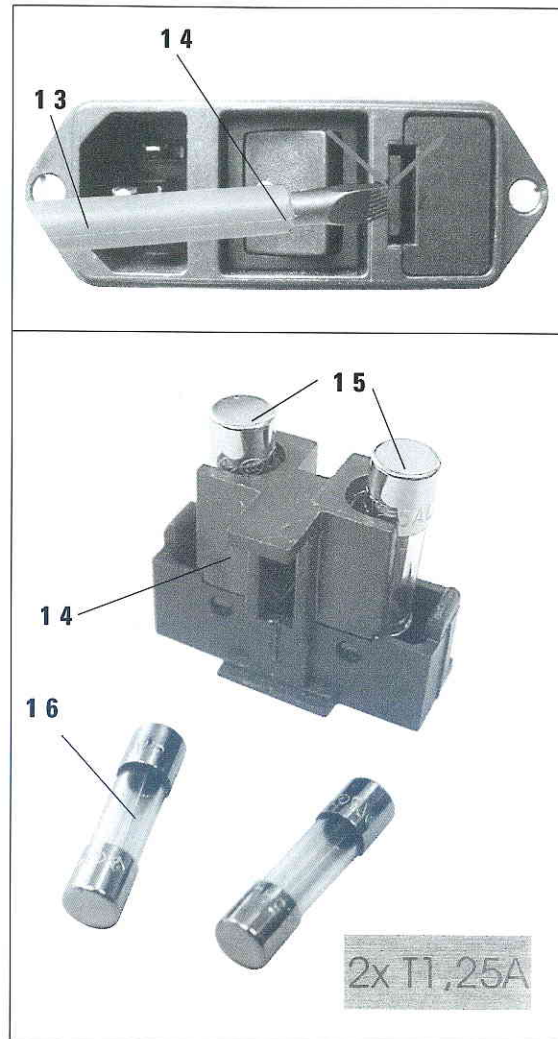

Fig. 31
- Using a screwdriver (13), carefully push out the fuse insert (14) (Fig. 31).
- Remove the fuse insert - it contains two fuses (15).
- Check that the thin wire (16) in the glass capillary of a fuse is intact. If not, replace the fuse (the standard scope of delivery includes two replacement fuses).